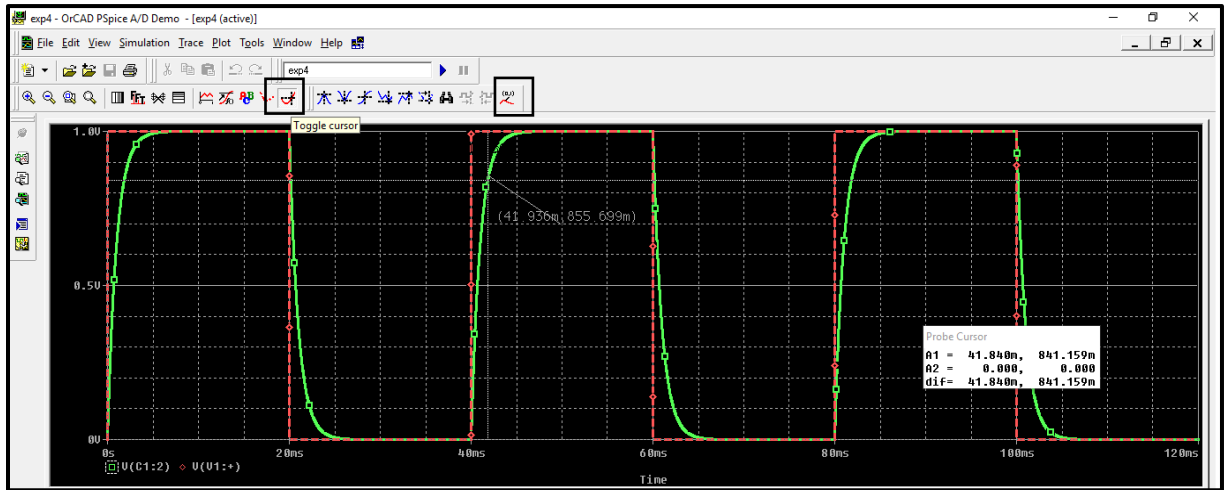

Figure.42
- Cursors are often used to determine certain points on traces to use cursors click on “toggle cursors” icon shown in figure.42.
- Each cursor has a reading of x-axis and a reading of y-axis, look at figure.42.